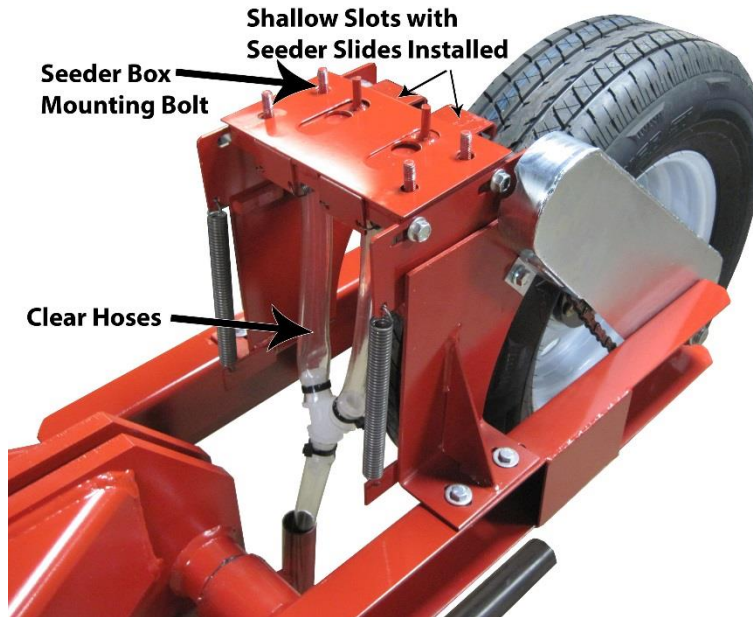

Figure 4: Seeder Assembly Area on GA-800
- b) Next place the seeder slides in the shallow slots they run in on the seeder assembly (see Figure 4). The side of the seeder slide with the larger flange and the two holes should be closer to the front of the machine.